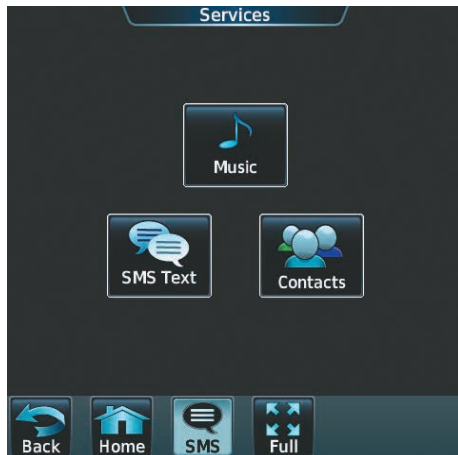

Figure 8-63 SMS Text Services Selection
- 1) From the **Home** Screen, touch **Services** > **SMS Text** (Figure 8-63).